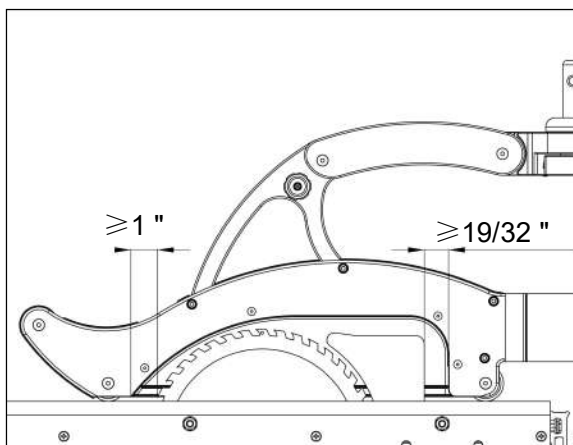
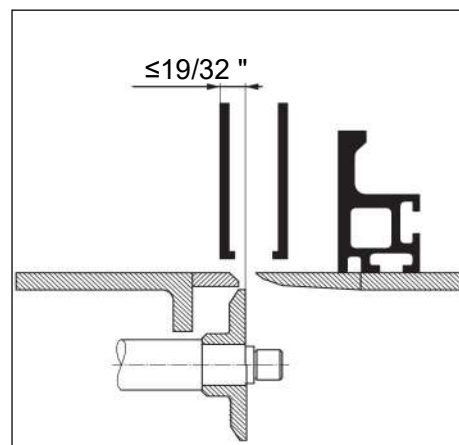

Fig. 16
Fig. 17
For safety reasons, the guard-to-blade position must meet the requirements illustrated in **Fig. 16** and **Fig. 17**. With the table saw OFF and unplugged from the power supply, raise the blade fully and verify that the following requirements are met:
1. There is a minimum distance greater than or equal to 1" from the tip of the teeth to the front inside curvature of the guard housing (see **Fig. 16**).
2. There is a minimum distance greater than or equal to 19/32" from the back of the riving knife to the rear inside curvature of the guard housing (see **Fig. 16**).
3. There is a maximum distance less than or equal to 15mm from the right side of the blade to the transparent guard (see **Fig. 17**).
The following axes adjustments can be made to ensure the guard is positioned to meet the requirements established in **section 5.2** and shown in **Fig. 16** and **Fig. 17**.